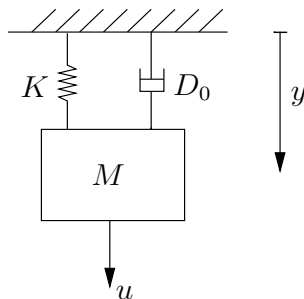
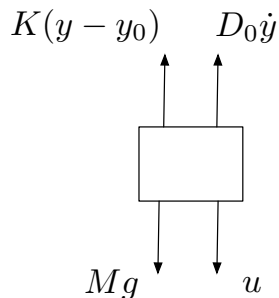

Figure 2.20: Mass-spring-damper.
Figure 2.21: Free-body diagram.
13. *Another mechanical example.* Figure 2.20 shows a mass-spring-damper system. The rest length of the spring is y_0 . Figure 2.21 shows the free-body diagram. The dynamic equation is